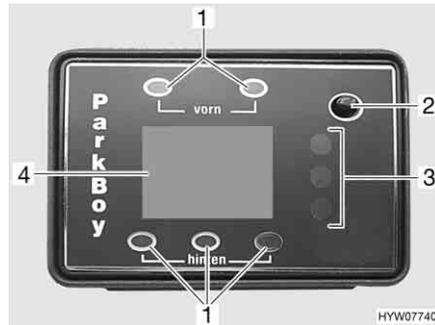

Fig. 15 Parking distance control operating unit
In the passenger compartment, an operating unit with a display (Fig. 15) shows the distance to the obstacle. At the same time, an acute signal sounds as a warning.
- ▷ When you switch on the ignition, the parking distance control carries out the system check independently. During this, all LEDs and segments (bars on the display) light up briefly and a beep signal is heard. If, after the system check, the red LED of the distance display (Fig. 15,3) flashes and a fast repeating warning tone is heard, the system has recognised a sensor defect. The defective sensor is shown on the display (Fig. 15,4).
- Press On/Off key (Fig. 15,2).
- The parking distance control can be switched off at all times independent of the selected switch-on method using the On/Off key (Fig. 15,2).
The distance between the vehicle and the obstacle is issued in three ways: The display (Fig. 15,4) shows the distance in steps of 5 cm. The lowest distance measured by a sensor is shown. What sensor delivers the measurement is shown by the illumination of the corresponding position LED (Fig. 15,1).
The three different-coloured LEDs (Fig. 15,3) are the second way of displaying. The change of the colours from green or yellow to red signals that an obstacle is coming nearer.